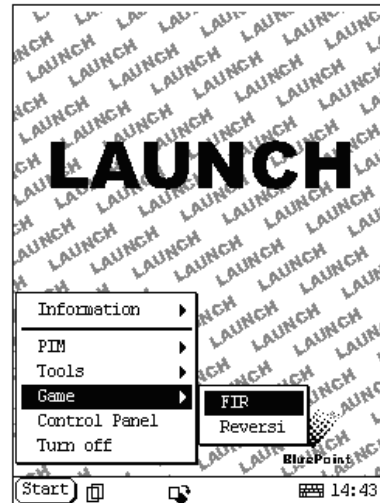

Figure 4-15
- 3) Select the function in the pop-up submenu. (See Figure 4-15)